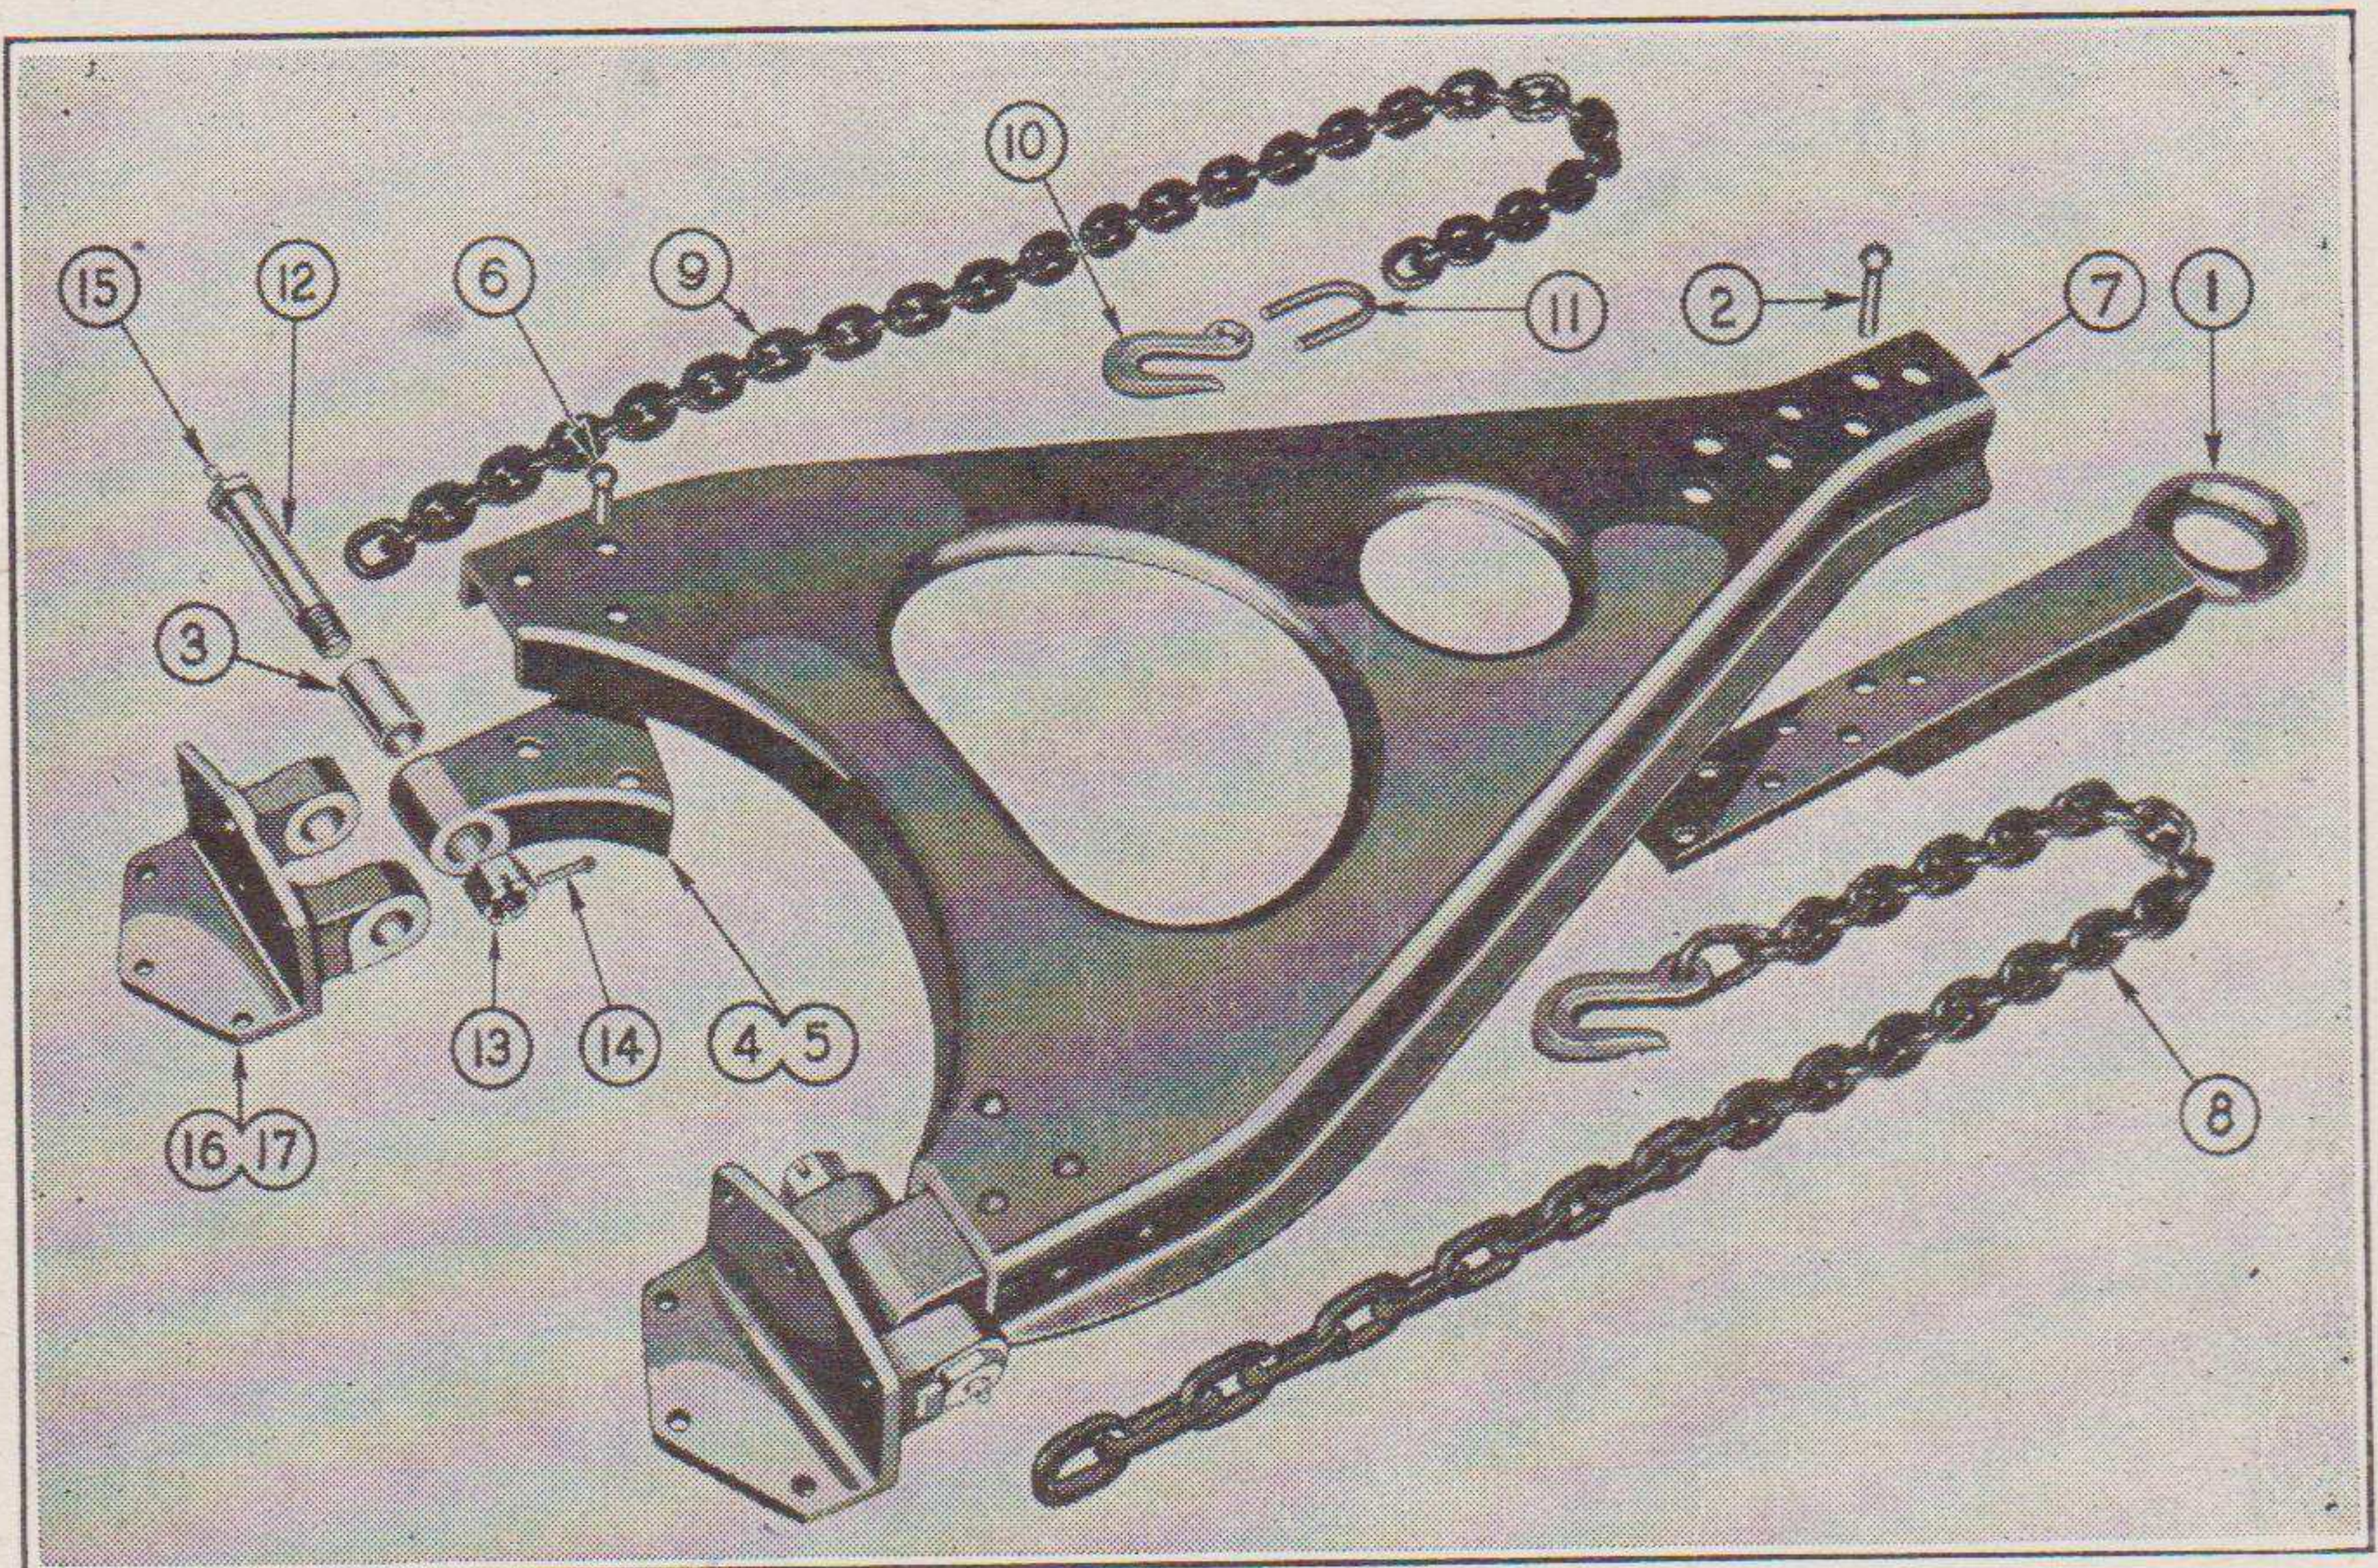

FIGURE 29. DRAW BAR ASSEMBLY
1. **REBUSHING DRAW BAR** (Refer to Figure 29).—*a.* New draw bar bushings (3) come from factory reamed to the proper diameter and care should be used when replacing the new bushing not to burr or mushroom their ends in installation.
2. **REPLACING EYE** (Refer to Figure 29).—*a.* This operation can be performed with the draw bar attached to the converter gear.
4. INSTALLING DRAW BAR FRAME BRACKETS (Refer to Figure 29).—*a.* Bolt frame brackets (16) to the frame crossmember using three $\frac{1}{2}$ " bolts in each bracket.
b. Place the draw bar in place and insert hinge bolts (12), leaving the nuts (13) off.
c. Drive five rivets in each bracket (16). Remove the draw bar and finish driving the rivets. By following these instructions all possible chance of the draw bar (7) not fitting the brackets (16) is eliminated.
5. RIVETING AND INSTALLING HINGE BRACKETS.—*a.* Cut rivets and welds from hinge brackets (4).
b. Bolt replacement hinge bracket (4-5 Right and Left) to draw bar (7), using three $\frac{7}{16}$ bolts.
c. Install draw bar (7) to frame brackets (16).
e. Remove draw bar from frame brackets (16) and weld. By following the above instructions you eliminate all possible chance of the draw bar (7) not fitting frame brackets (16).